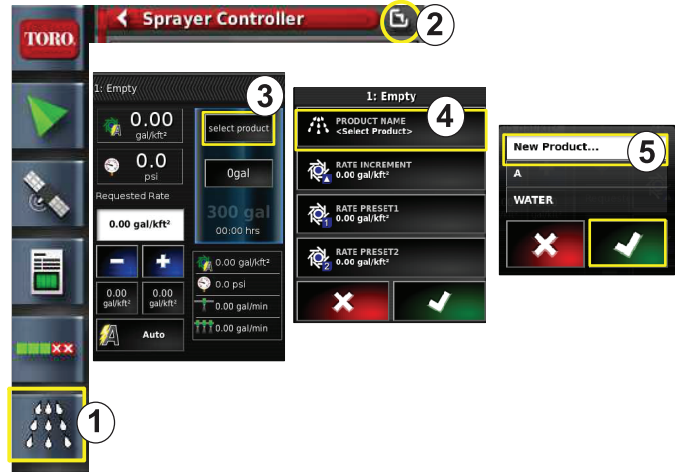

Figure 9
- Press the sprayer-rate controller icon and expand the rate controller mini view (Figure 9).